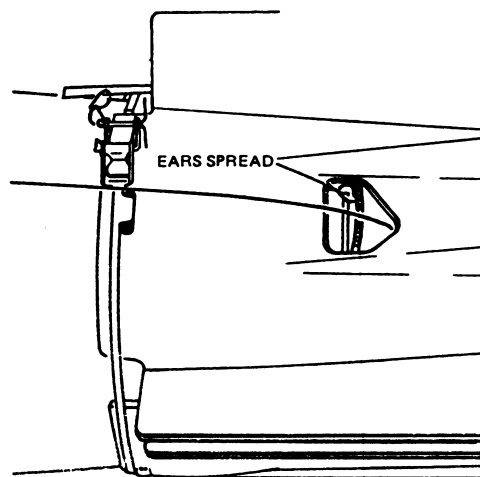

Figure 12-43.—Retaining ring snapped into semicircular groove in fin support.
15. Allow the retaining ring to snap into the semicircular groove in the fin support. (See figure 12-43.) This locks the fin assembly to the bomb body.